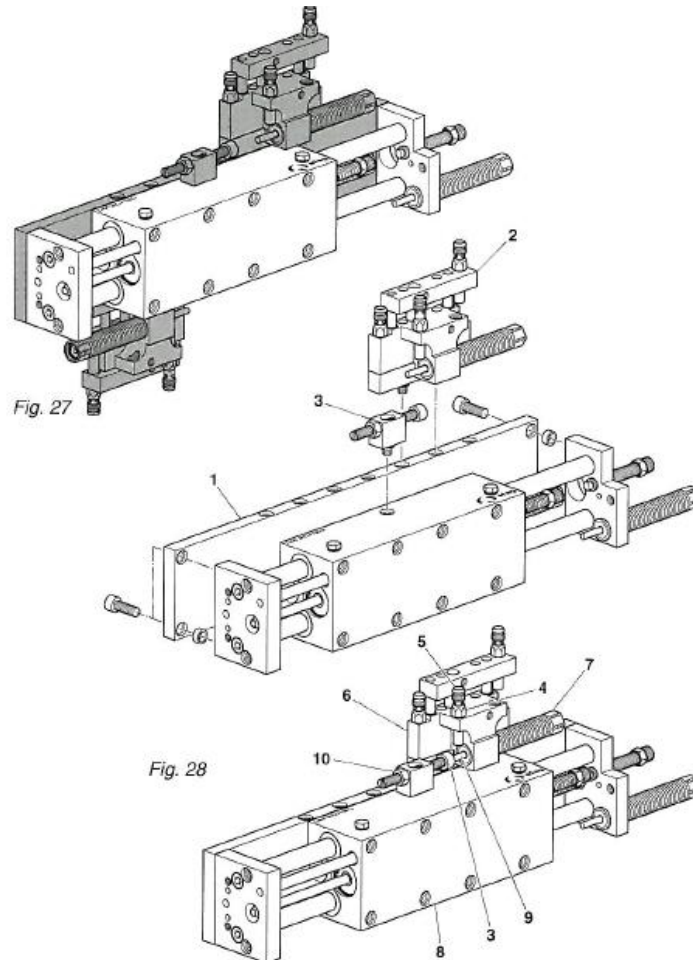

Fig. 15 Attachment of intermediate stop
1. Insert base plate (Fig. 15, 1), intermediate stop (Fig. 15, 2) and stop screw (Fig. 15, 3).
2. Release the initiator holder (Fig. 15, 4) and remove the initiator (Fig. 15, 5).
3. Hold the slide (Fig. 15, 6) together with the shock absorber (Fig. 15, 7) in the lower position. Move the housing (Fig. 15, 8) of the LM 20/25 linear guide up to the limit in the direction of the shock absorber (Fig. 15, 7). The shock absorber pin (Fig. 15, 9) is pressed into the shock absorber by the stop screw (Fig. 15, 3).
4. Loosen the nut (Fig. 15, 10) of the stop screw and fix the position by fine adjustment of the stop screw. Then secure the stop screw (Fig. 15, 3) with the nut (Fig. 15, 10).